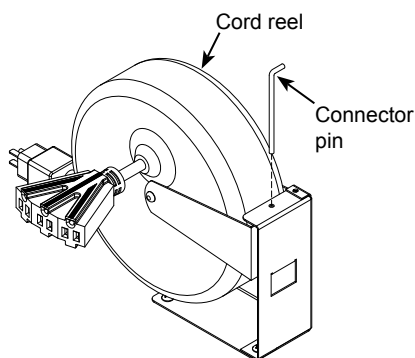

Figure 3C
3. Straighten the connector pin with a pliers and remove. **Figure 3C.**